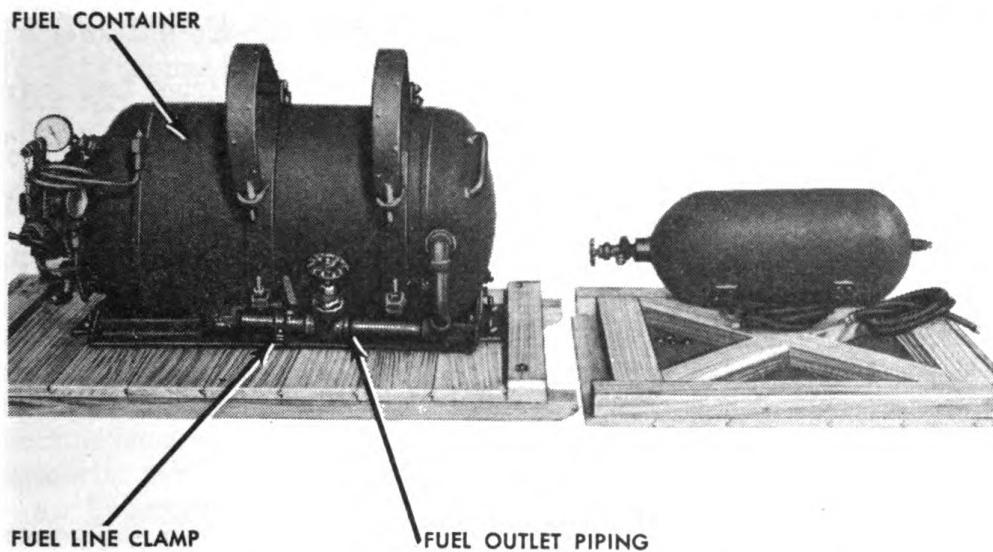

Fig. 9. Pressure container removed from fuel container.
- (5) Remove pressure container (fig. 9) from pressure container straps by sliding toward pressure line plate.
- (6) Loosen hex nut which connects pressure line to fuel container.
- (7) Disconnect bleed hose union at bleed valve, using a wrench on hex nut of union.